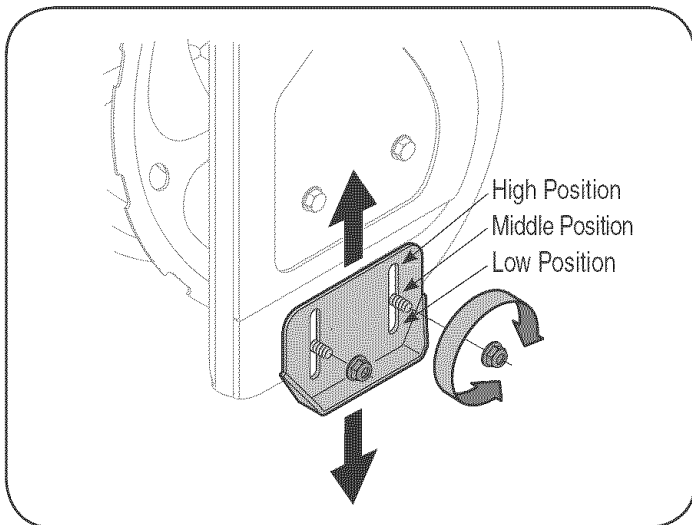
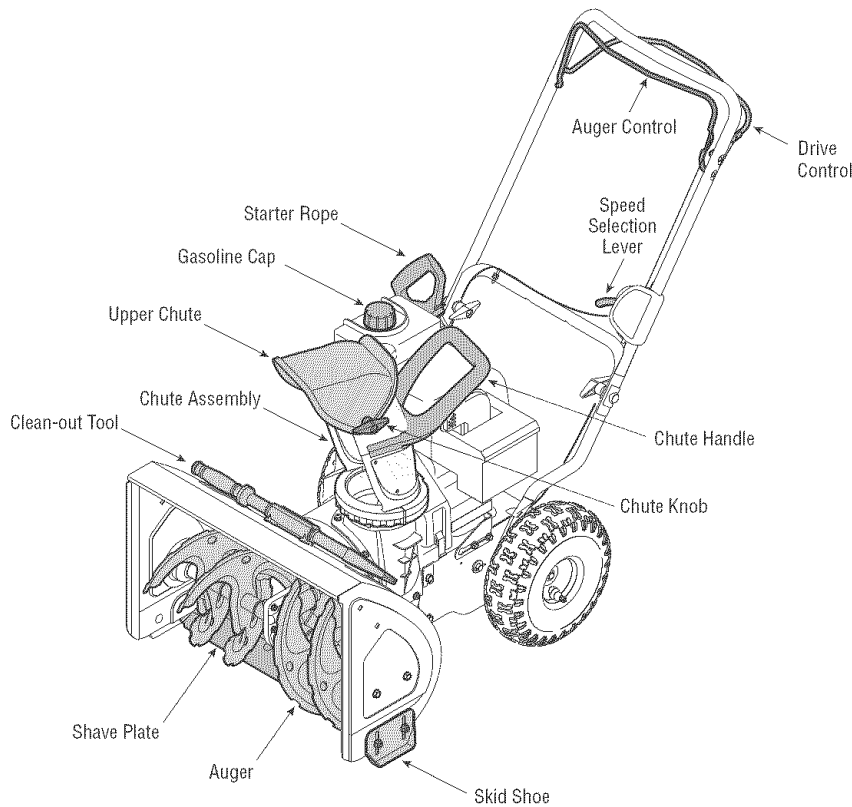

Figure 5
Figure 6
The space between the shave plate and the ground can be adjusted. Refer to Figure 6 on page 7 for location of shave plate and skid shoes. For close snow removal, place skid shoes in low position. When area to be cleared is uneven, place skid shoes in the middle or high position. See Figure 5.
1. Adjust skid shoes by loosening two hex nuts and carriage bolts on each skid shoe, and moving skid shoe to the desired position. See Figure 5.
**NOTE:** Compare Figures 6 & 7 with your equipment and follow description of controls, given below, to get familiar with their operation.